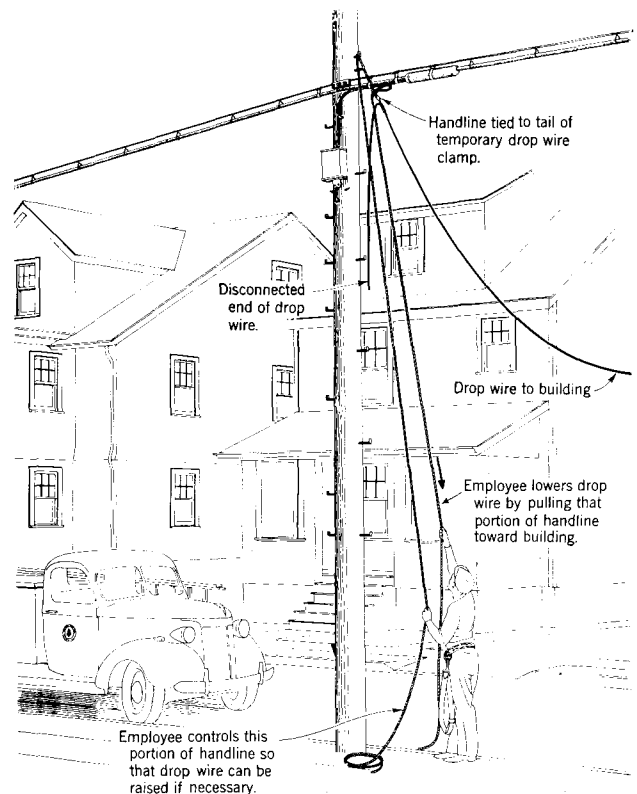

Fig. 1 — Lowering Drop Wire
- (3) Disconnect the drop wire from the terminal and remove the free end from the wiring rings on the pole.
- (4) Place a temporary drop wire clamp on the wire to be lowered, about one foot out in the span. Seat the clamp firmly on the wire.
- (5) Tie a loop of the handline to the tail of the temporary drop wire clamp so that the lashed end of the handline is sufficiently taut to remove tension from the original drop wire clamp.
- (6) Remove the original drop wire clamp from the wire span, thus leaving the wire supported by the temporary drop wire clamp and the lashed handline.
(7) Return to the ground. Untie the handline from the base of the pole and, when no vehicles or pedestrians are approaching, lower the drop wire to the ground by pulling that portion of the handline toward the building. The portion of the handline on the opposite side of the strand should pass through the employee's hand as shown in Fig. 1 in order that he may be able to pull the handline in either direction to work the drop wire among the branches of a tree or to raise the wire quickly if necessary.
(8) After the wire has been lowered to the street or highway, remove the temporary drop wire clamp from the wire, tie the handline to the base of the pole, and remove the wire from the street or highway.